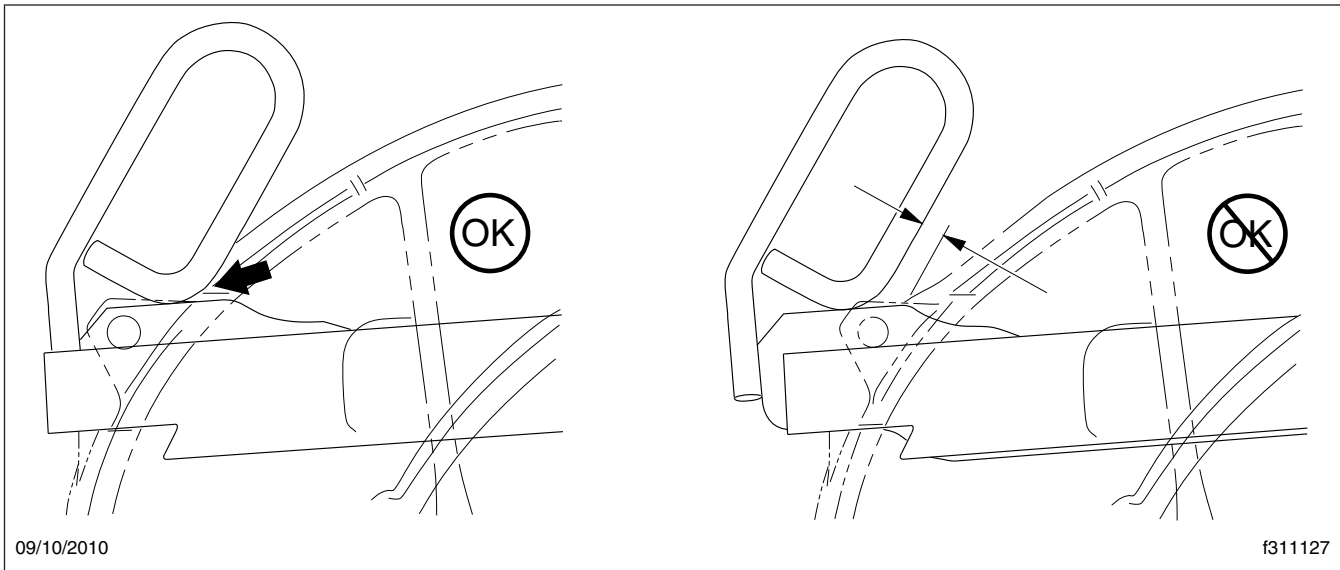

Fig. 17.8, Jost Release Handle Locked
- Ensure that the release handle is in the locked position adjacent to the casting. See Fig. 17.8.